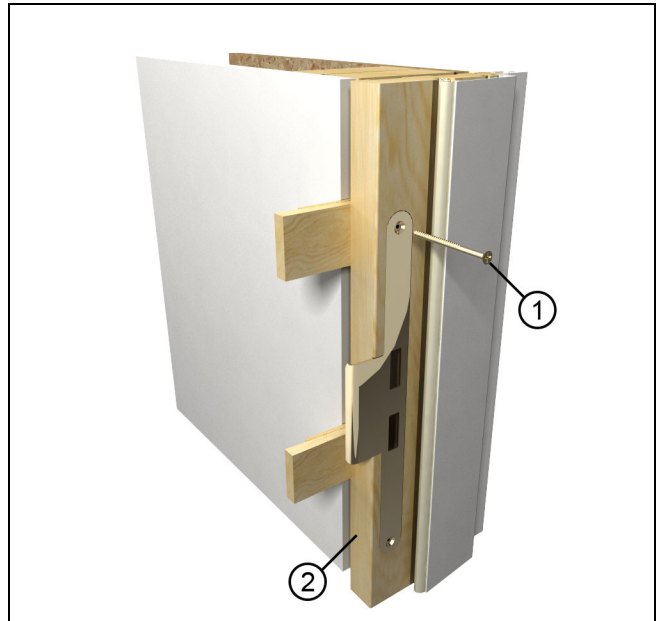

Figure 6
4. On all side jamb and head jamb strike plates, remove and replace the screws fastening the strike to the frame with the longer screws and drive into the rough opening frame as shown in Figure 5 and Figure 6. On Ultimate Inswing Doors the screws will stay intact on the head jamb strike plate and two #8 installation screws will be applied through the retainer as shown in Figure 7.